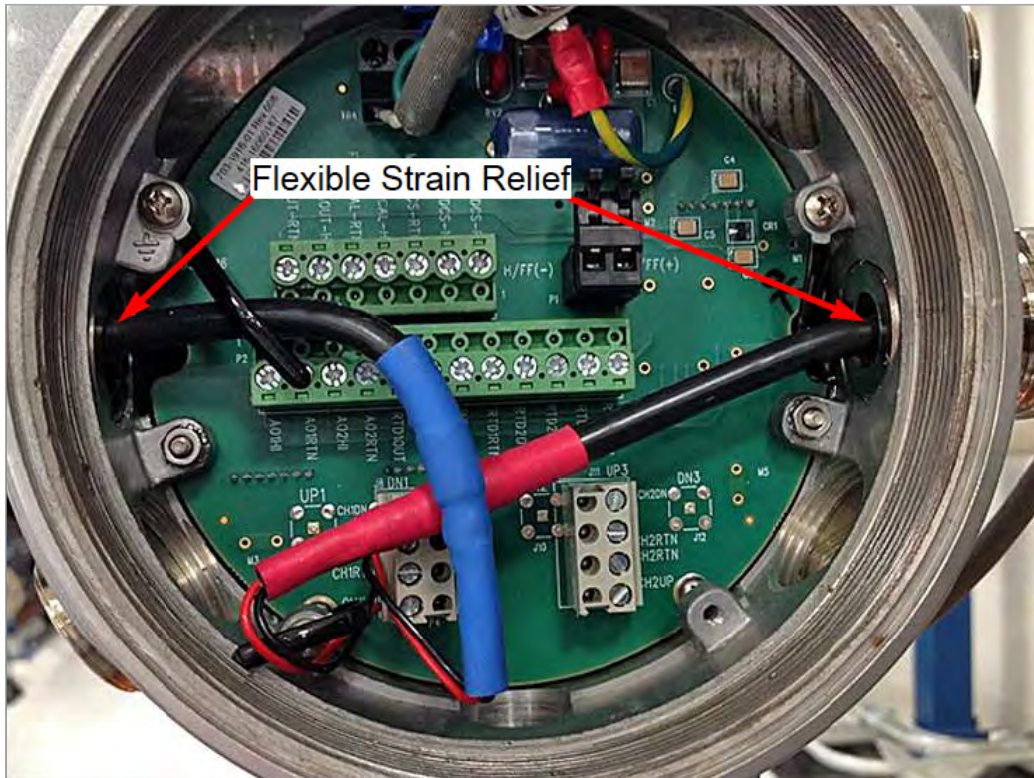

Figure 16: Terminating the transducer cables
13. After the coaxial cables have been properly installed in their cable glands, they must be connected to the terminal blocks inside the flow transmitter enclosure (see Figure 16 below) as follows: